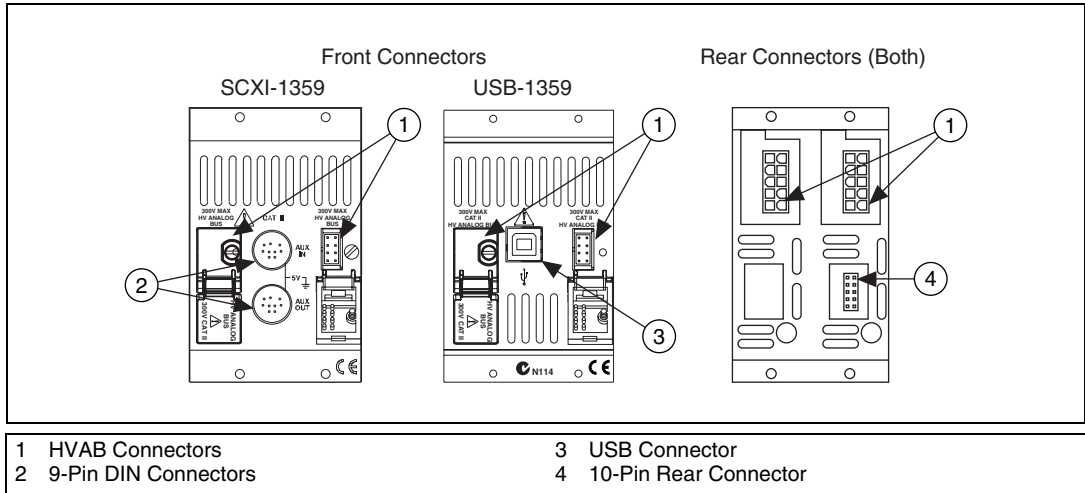

Figure 2. 2-Slot HVAB Backplane Adapter Connectors
6. Attach the NI 1359, included with the kit, to the rear of the SCXI switch module. Ensure that the 10-pin rear connector of the switch module connects to the lower, right 10-pin rear connector of the NI 1359 cabled to the computer or the switch controller. Refer to Figures 2 and 3 to verify the connector positions on the NI 1359.